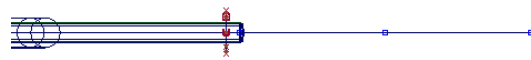

Figure 3-79 The rotated circle and the line
7. Enter **0, 0, 90** in the promptline and press ENTER; the circle is rotated about the X, Y, and Z axes accordingly, as shown in Figure 3-79.
9. Next, choose the **Line** tool from the **Keypoint Curve Toolbox** and create the line, refer to Figure 3-79.